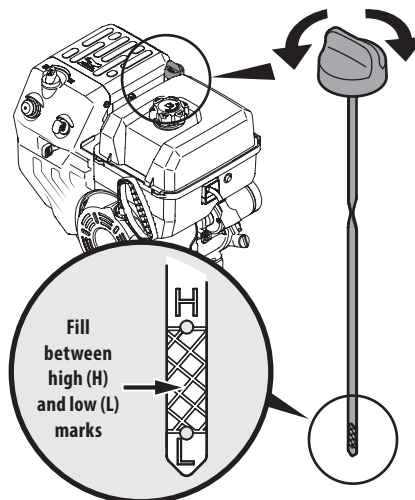
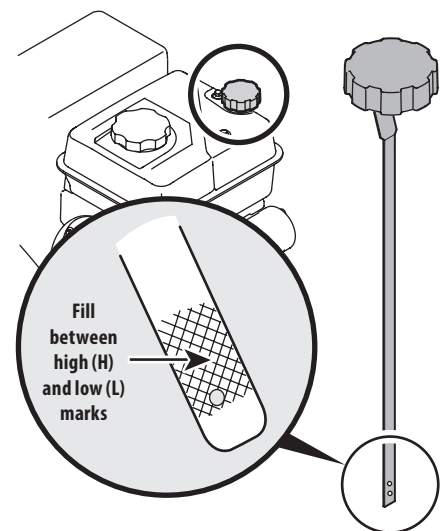

Figure 3-2
Figure 3-3
- Keep oil level between "H" and "L" marks on dipstick. See Figure 3-2.
1. Remove the oil filler cap/dipstick and wipe the dipstick clean. See Figure 3-2.
3. Remove the oil filler cap/dipstick. If the level is low, slowly add oil until oil level registers between high (H) and low (L), Figure 3-2.
- Keep oil level between "H" and "L" marks on dipstick. See Figure 3-3.
1. Remove the oil filler cap/dipstick and wipe the dipstick clean. See Figure 3-3.
3. Remove the oil filler cap/dipstick. If the level is low, slowly add oil until oil level registers between high (H) and low (L), Figure 3-3.
4. Loosen and remove the oil fill cap dipstick from the oil filler tube. Note the oil level, if oil reading on the dipstick is below the "L" mark, slowly add oil to reach the "FULL" level. See Figure 3-2 or Figure 3-3, whichever is applicable.